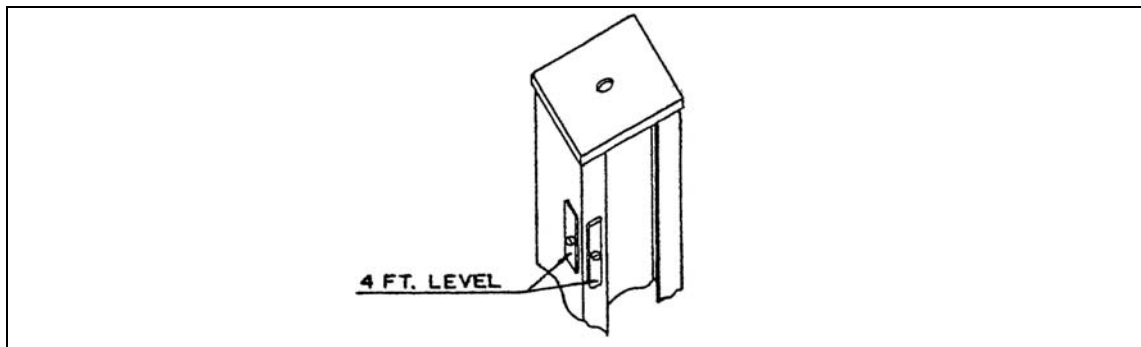

Figure 10. Post leveling
- Tighten the two (2) 7/8" - 14 UNF hex nuts on each cable at the top of each post.
- Use a four (4) foot level. Level and square all four posts.
- Begin leveling the highest post. Figure 10.